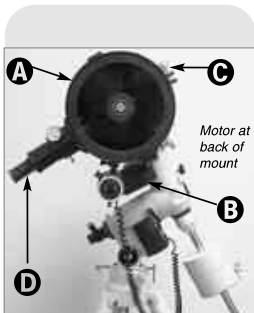

Fig. 48: Method #2 Setup. (A) Optical Tube; (B) Dec. Motor; (C) Cradle Ring Lock Knobs; (D) Eyepiece.
- Refer to Fig. 48 while performing this step. The Dec. motor (B) must be positioned so that it is at the back of the mount. The optical tube (A) must be approximately horizontal (*i.e.*, parallel with the horizon) and the counterweight shaft must be pointing straight down.
If using a Schmidt-Newtonian model, loosen the cradle ring locks knobs (C) and move the optical tube until the eyepiece (D) points downward as shown in the Fig. 48. Re-tighten the cradle ring locks.